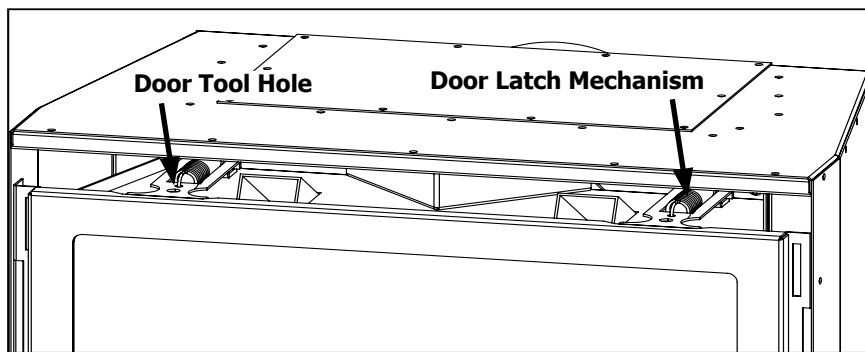
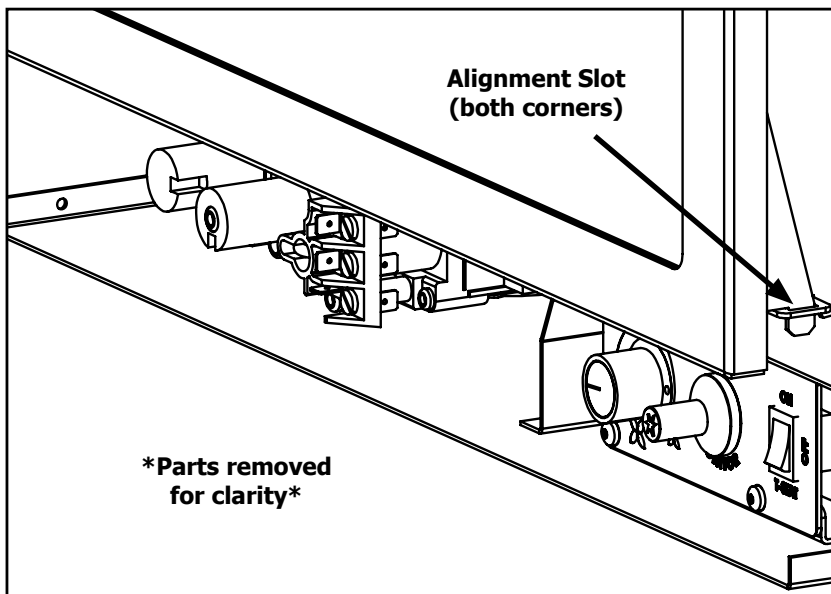

Figure 16. Top latches for glass door
Figure 17. Bottom Alignment Slots for glass door.
In order to install the glass media, and for regular cleaning, the glass door must be removed. There are two (2) door latch mechanisms on top the glass door as shown in Figure 16. Each latch has a hole at the front to use the door tool, supplied with the unit, to pull the mechanisms straight out and up. When the top latches are unhooked, lean the door forward and then lift it up out of the alignment slots at the bottom corners of the firebox, shown in Figure 17.